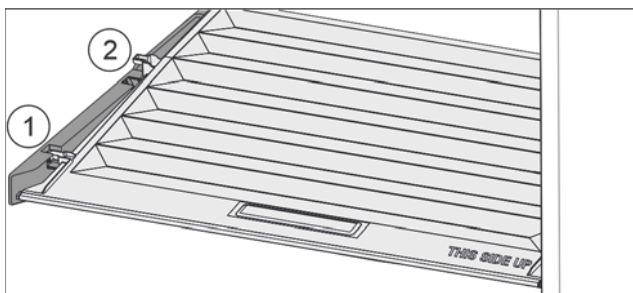

Fig. 28
- Pull the lid up at the front in the retaining parts to the opening Fig. 28 (1).
- Lift from the back and pull it up and out Fig. 28 (2).